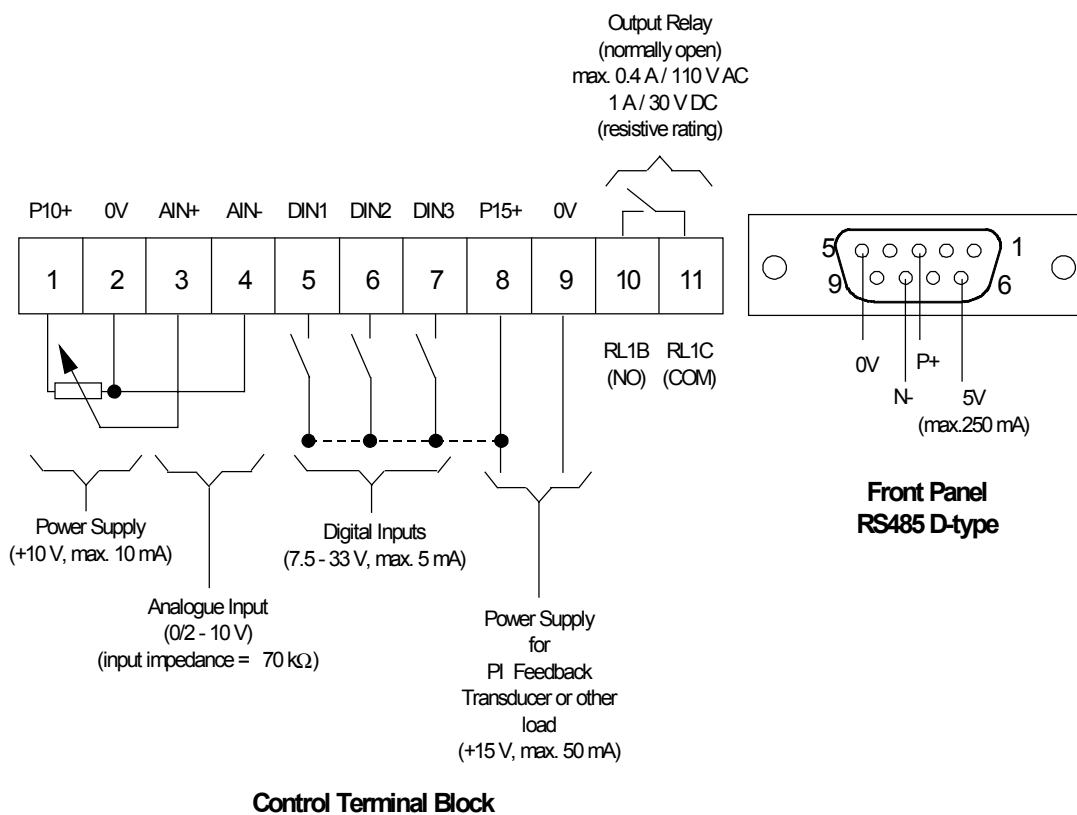
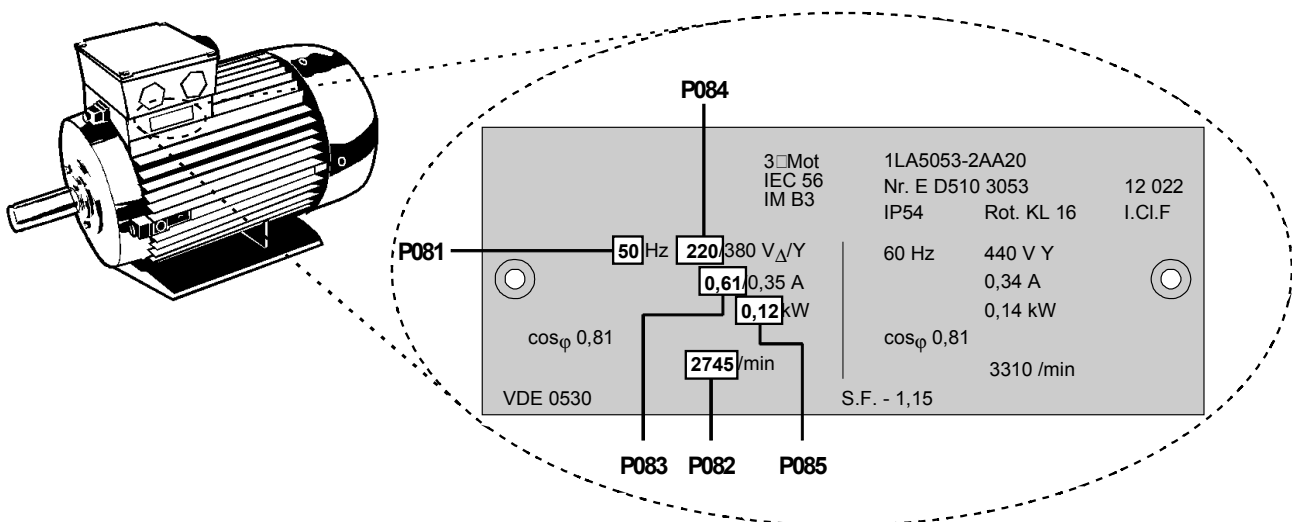

Figure 2.2.4: Control Connections
Figure 3.2.1: Typical Motor Rating Plate Example
15. Connect the control leads as shown in Figures 2.2.4 and 2.2.6, Section 2.2.4 and 2.2.6.
- (1) The inverter does not have a main power switch and is live when the mains supply is connected. It waits, with the output disabled, until the RUN button is pressed or for the presence of a digital ON signal at terminal 5 (rotate right) or terminal 6 (rotate left) - see *parameters P051 - P053*.
- (2) If output frequency is selected to be displayed (P001 = 0), the corresponding setpoint is displayed approximately every 1.5 seconds while the inverter is stopped.
- (3) The inverter is programmed at the factory for standard applications on Siemens four-pole standard motors. When using other motors it is necessary to enter the specifications from the motor's rating plate into parameters P081 to P085 (see *Figure 3.2.1*). **Note: Access to these parameters is not possible unless P009 has been set to 002 or 003.**
- (1) Connect control terminal 5 to terminal 8 via a simple on/off switch. This sets up the motor for clockwise rotation (default).
- (2) Apply mains power to the inverter. Set parameter P009 to 002 or 003 to enable all parameters to be adjusted.
- (3) Check that parameter P006 is set to 000 to specify digital setpoint.
- (4) Set parameter P007 to 000 to specify digital input (i.e. DIN1 (terminal 5) in this case) and disable the front panel controls.
- (5) Set parameter P005 to the desired frequency setpoint.
- (6) Set parameters P081 to P085 in accordance with the rating plate on the motor (*see Figure 3.2.1*).
- (2) Connect a 4.7 k Ω potentiometer to the control terminals as shown in Figure 2.2.4 or connect pin 2 (0V) to pin 4 and a 0 - 10 V signal between pin 2 (0V) and pin 3 (AIN+).
- (3) Apply mains power to the inverter. Set parameter P009 to 002 or 003 to enable all parameters to be adjusted.
- (4) Set parameter P006 to 001 to specify analogue setpoint.
- (5) Set parameter P007 to 000 to specify digital input (i.e. DIN1 (terminal 5) in this case) and disable the front panel controls.
- (6) Set parameters P021 and P022 to specify the minimum and maximum output frequency settings.
- (7) Set parameters P081 to P085 in accordance with the rating plate on the motor (*see Figure 3.2.1*).